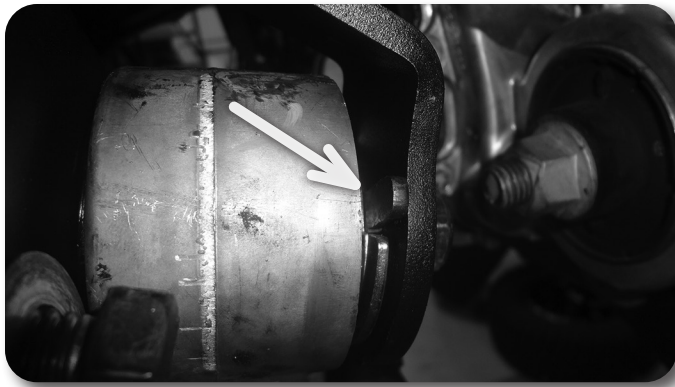

Figure 29A
41. Install the differential to the new driver's and passenger's differential brackets. Loosely attach the differential to both differential drop brackets with 9/16" x 4" bolts, prevailing torque nuts, and washers Fig 29 C & D. The passenger's side differential bracket will use a spacer on the front side between the bushing and the differential bracket Fig. 29A & B.